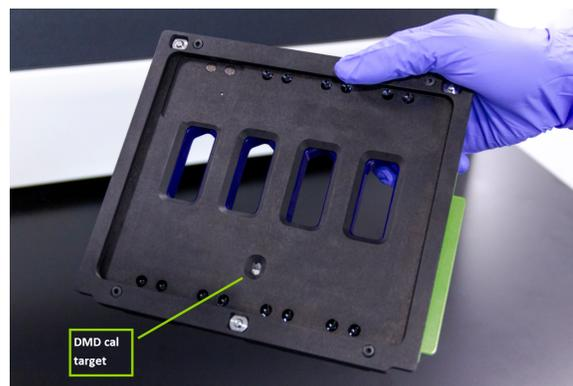

Figure 106: Underside of slide holder with DMD calibration (DMD cal) target indicated
5. Visually inspect the digital micromirror device (DMD) calibration target (Figure 106) to ensure it is clear of all debris. Do not contact the target unless necessary to gently wipe away debris. DO NOT apply pressure to the target.